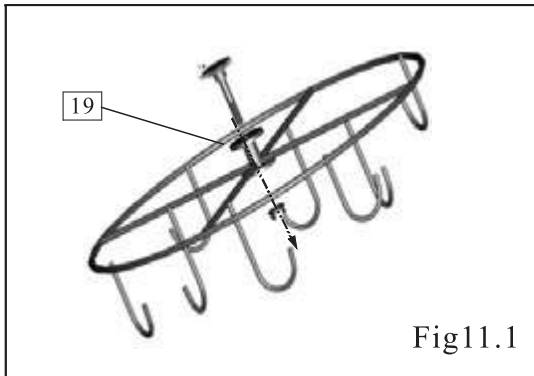

Fig11.1
*Locate:* Sausage hanger(19), hanger guide(1) 1/4-20 Flange nut
*Procedure:* Using (1) 1/4-20 Flange nut to attach the hanger guide onto the sausage hanger. Fig11.1